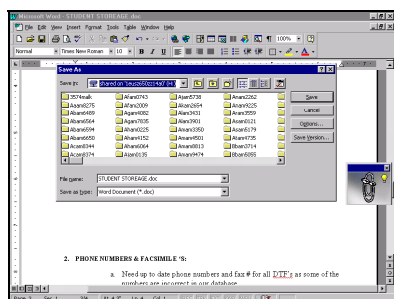

FIGURE VI.5
- 6) Next, the student should left-click the mouse button once. The entry "shared on 'xxxxx123x321 (H)'" will appear in the small "Save in:" field and all the folders on the "H" drive will appear in the large open section of the dialog box. (See figure VI.5.)
- 7) Once all of the folders appear in the window of the "Save as:" dialog box, the student should move the cursor to the slide bar at the bottom of the window and then left-click on the right arrow to locate the appropriate folder. The student folder name is the same as the UserID. (see figure VI.5)